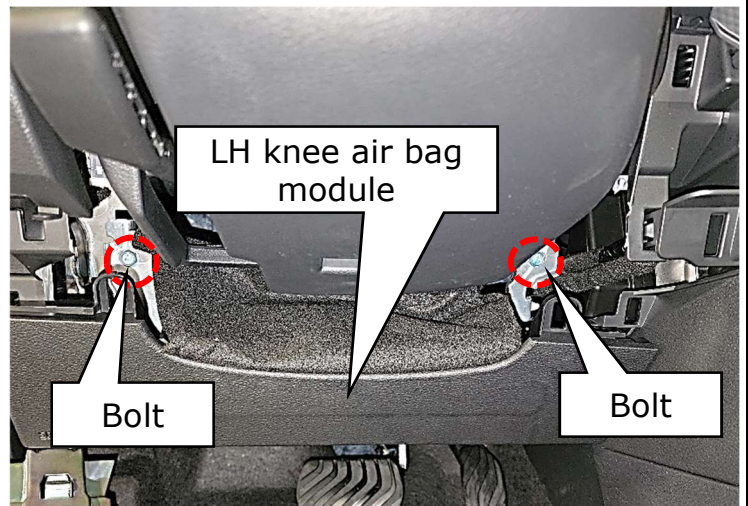

Figure 8
7. Remove the bolts from the left knee air bag module and discard bolts. (Figure 8)